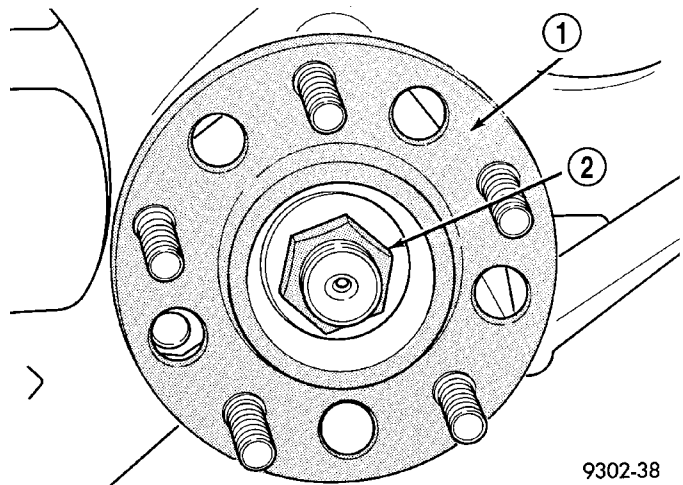

Fig. 16 Hub And Bearing To Stub Axle Retaining Nut
(8) Install a **NEW** retaining nut (Fig. 16). **Tighten, but do not torque the hub nut at this time.**